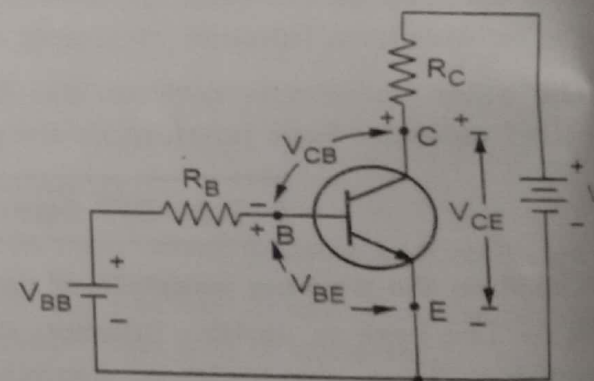

Fig. Q.12.1 Voltage source connection for npn transistor
Ans. : • Fig. Q.12.1 shows the terminal voltages and its polarity for an npn transistor. The voltage between base and emitter is denoted as V_{BE} . For V_{BE} , base is positive than emitter because in npn transistor, the base is biased positive with respect to emitter.
- The voltage between the collector and the emitter is denoted as V_{CE} and the voltage between the collector and the base is denoted as V_{CB} . Since collector is positive with respect to base and emitter the polarities are as shown in the Fig. Q.12.1.
- Fig. Q.12.1 shows the npn transistor with voltage source connections. The voltage sources are connected to the transistor with series resistors. These resistors are called current limiting resistors.